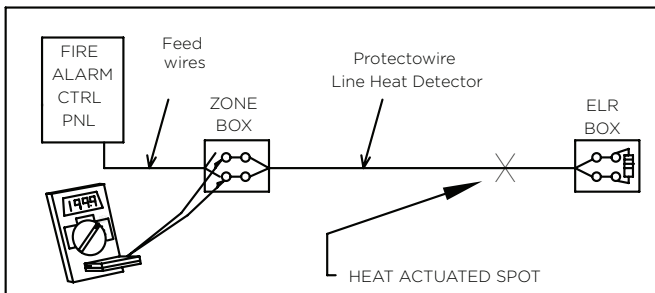
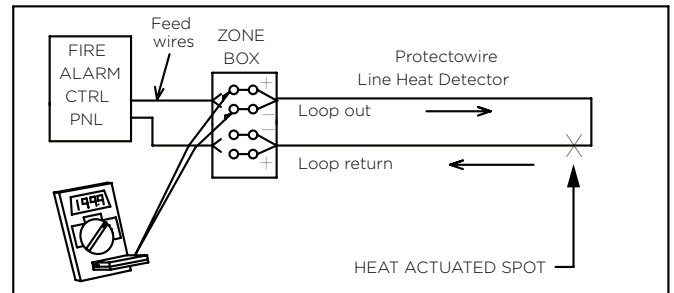

FIGURE 3 CLASS B DET. CKT. W/METER CONNECTED
FIGURE 4 CLASS A DET. CKT. W/METER CONNECTED.
If the initiating device circuit (IDC) is a two wire Class B (NFPA Style A) start at the ZONE BOX which is the beginning of the Protectowire run. Disconnect at least one side (wire) of the IDC (See figure 3). Connect test leads across the Protectowire side of the IDC. With the meter and adapter power on the meter will display the distance from the start of the Protectowire run to the actuated point. If the actuated point is beyond a cable run that is greater than 1999 feet, switch the meter to the 2Vdc scale and multiply the reading by X10.
If the IDC is a four wire Class A (NFPA Style D) start at ZONE BOX (see figure 4) mark and disconnect all for (4) wires. Connect the meter test leads across two wires going out. The meter will display location of the overheated point. Now connect the test leads across two returning wires. Meter will display a second reading. Summing the readings should result in the total length of the Protectowire. Either way, from the start of the run to the actuated point or from the return of the wire run to the actuated point, the location is at the same point on the Protectowire.
The actual length of Protectowire cable in an IDC zone can be determined basically the same way as finding the alarm point on the cable, as described in Para. 3.02. This is accomplished by placing a jumper across the end of the Protectowire run, this would be in the ELR BOX for the two wire Class B CKT (See Figure 3). For the Class A CKT place jumper across the two return loop wires in the ZONE BOX (See Figure 4). Connect the meter at the start of the Protectowire cable run, meter will display the total length of cable in that zone.